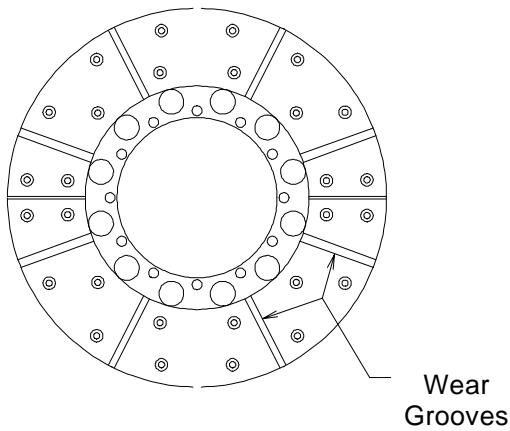
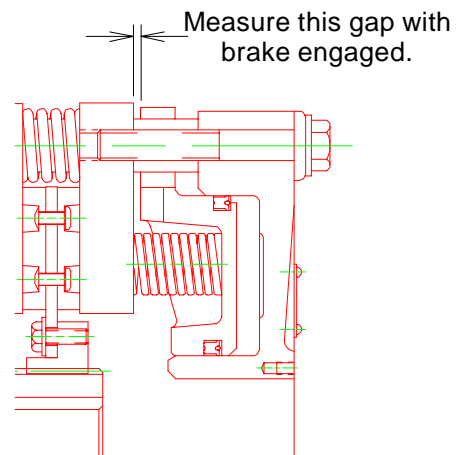

Figure 5
Figure 6
- 4.2.1 On both single and dual disc units, the friction material must be replaced when worn to the bottom of the groove on the friction lining. See Figure 5. A wear adjustment is required when the friction material is approximately one-half worn. To determine when adjustment is required, measure the gap between the spring housing (16) and the pressure plate (13) with the brake engaged, as shown on Figure 6. When this dimension is .50" (12.7 mm) or greater, AND none of the friction discs are worn to the bottom of the wear groove, adjust per the following procedure.